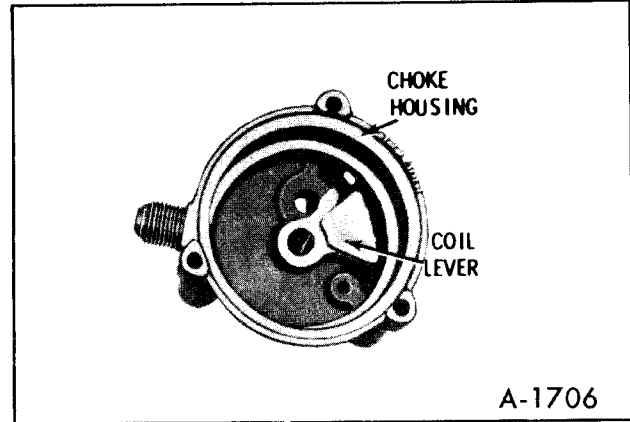
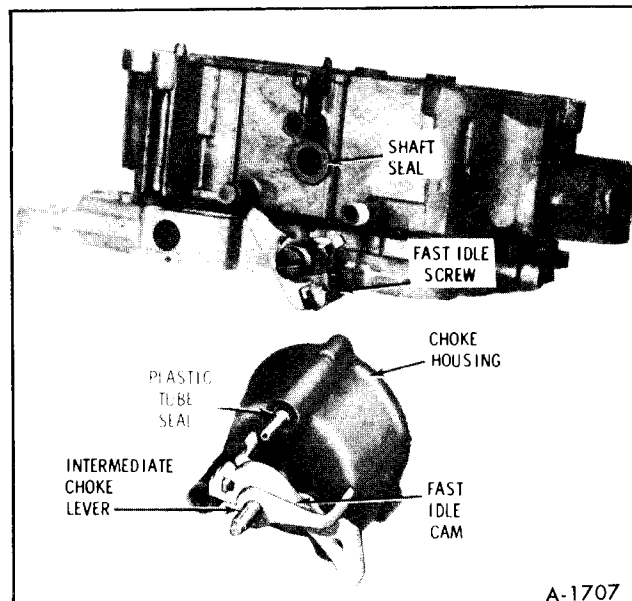

Figure 21-Choke Coil Lever
Figure 22-Choke Housing Sealing
3. To disassemble intermediate choke shaft from choke housing, remove coil lever retaining screw at end of shaft inside the choke housing (figure 21). Then remove thermostatic coil lever from flats on intermediate choke shaft. Remove intermediate choke shaft from the choke housing by sliding outward. The fast idle cam can now be removed from the intermediate choke shaft. See Figure 22.
2. Install fast idle cam onto the intermediate choke shaft (steps on fast idle cam face downward) as shown in Figure 22.